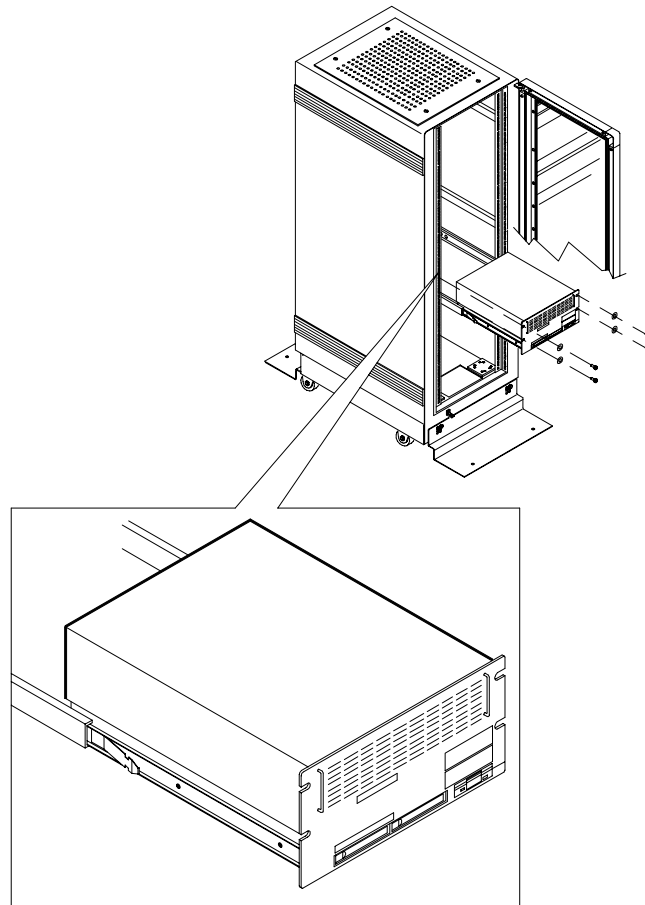

Figure 2-8 Mounting the BSU
Use the following procedure to mount the BSU into the rack cabinet (see Figure 2-8).
1. Pull the two extension rail assemblies (see Figure 2-8) out of each rack mounting assembly on the rack cabinet until it locks in place.